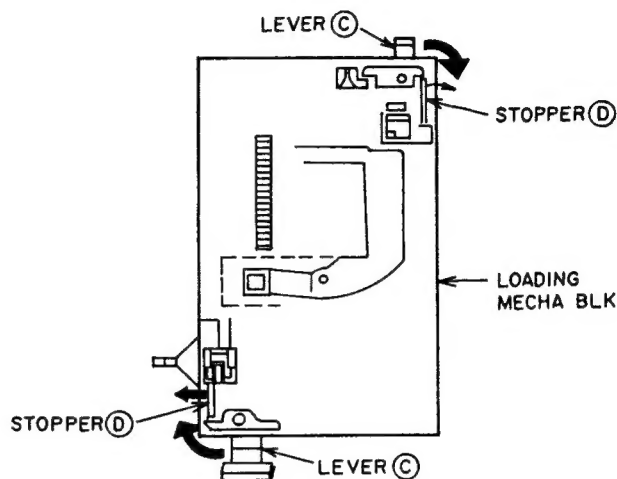

Fig.4-6
- 1) Turn the LEVERS (C) while releasing the STOPPERS (D) as shown Fig.4-6.